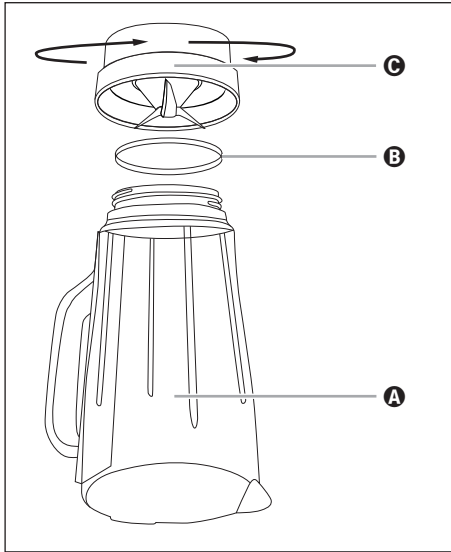

Fig. 4
- 2) Turn the appliance upside down and turn the plastic part ③ of the blender ③ anticlockwise so that it can be detached from the glass part ① of the blender attachment ③ (see fig. 4).
- 4) You can carefully remove the sealing ring ④ from the plastic part ③ if necessary. Clean in mild soapy water and rinse with clear water.
- 6) If necessary, reinsert the sealing ring ④ into the plastic part ③ correctly. Then place the plastic part ③ of the blender ③ back on the glass part ① of the blender ③ and turn the plastic part ③ clockwise.